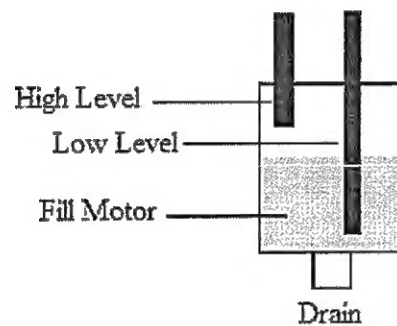

Figure Q2.(a): Dispensing Oil from a Tank
- (a) Write a programmable logic controller (PLC) ladder diagram to control the lubricating oil being dispensed from a tank as shown in the **Figure Q2.(a)** by using the Input/Output assignment as shown in **Table Q2-(a)**,
- (b) Write a programmable logic controller (PLC) ladder diagram to control forward and reverse running of the motor as shown in the **Figure Q2(b)** by using the Input/Output assignment as shown in **Table Q2(b)**